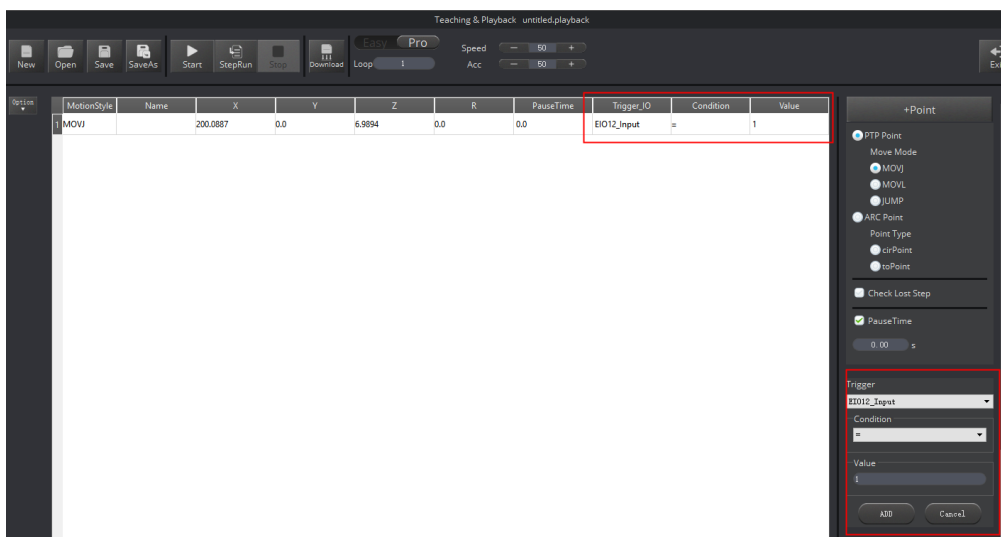

Figure 5.179 Saved point
Step 4 Click **ADD**, as shown in Figure 5.179.